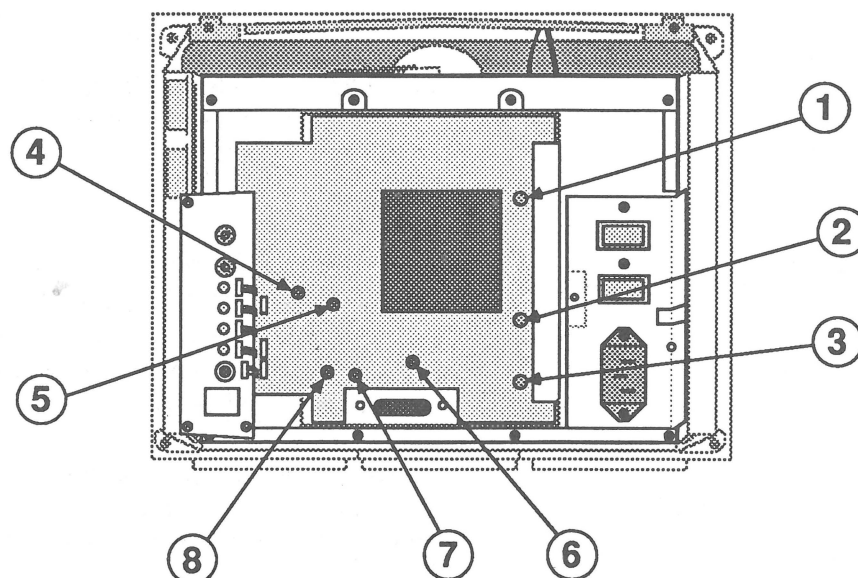

FIGURE 6
- B.BKG (Figure 6, #1)
- G.BKG (Figure 6, #2)
- R.BKG (Figure 6, #3)
- R.DRIVE (Figure 6, #4)
- G.DRIVE (Figure 6, #5)
- B.DRIVE (Figure 6, #6)
- SUB CONT (Figure 6, #7)
- SUB BRT (Figure 6, #8)
Note: In the videotape *CRT Safety and Adjustments* the 3 background (BKG) controls (Figure 6, #1–#3) are preset to minimum (full clockwise). This is also an acceptable starting point for adjusting the cutoff.